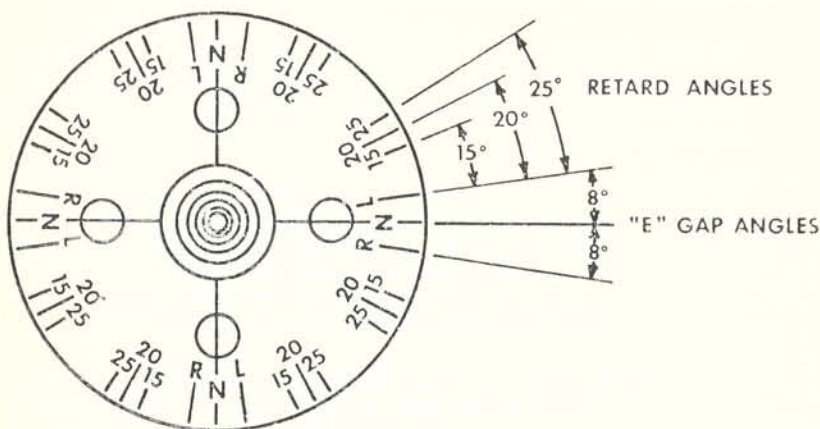

Figure 5-2. Timing Marks on Rotating Magneto
(2) Back the engine up a few degrees and again bump forward toward number one cylinder firing position while observing timing lights. Both lights should go out to indicate opening of the main breakers when the timing pointer is indicating within the width of the "L" or "R" mark. If breaker timing is incorrect, loosen breaker screws and correct. Retorque breaker screws to 20 to 25 in. lbs.
(4) Back the engine up a few degrees and again bump forward toward number one cylinder firing position until pointer is aligned with 15° retard timing mark. See figure 5-2. Retard breaker should just open at this position.
(5) If retard timing is not correct, loosen cam securing screw and turn the retard breaker cam as required to make breaker open per paragraph c(4). Retorque cam screw to 16 to 20 in. lbs.
(6) Observe that tachometer breaker is opened by the cam lobe. No synchronization of this breaker is required.
(7) Check action of impulse coupling (D-2000 series only). With the ignition switch off observe breaker cam end of rotor while manually cranking engine through a firing sequence. Rotor should alternately stop and then (with an audible snap) be rotated rapidly through a retard firing position.